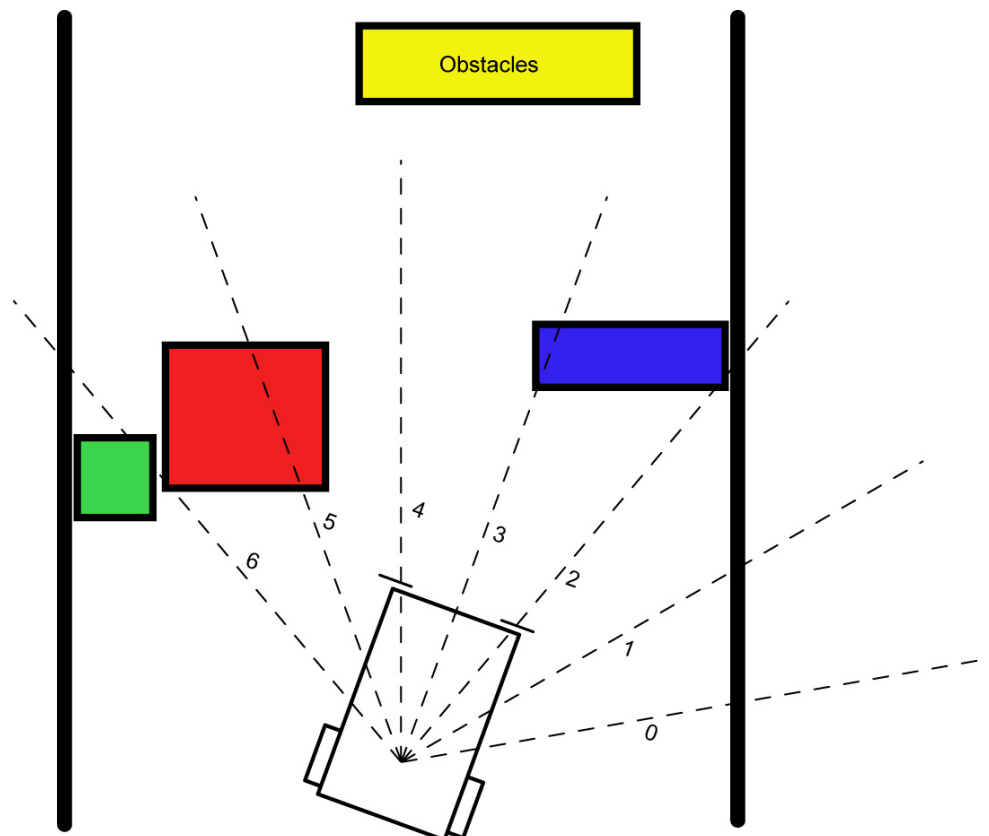

Figure 1
- **Obstacle Avoidance:** This series of four sonar car lessons walk you through the software development for the sonar car. In general, the car is designed to make its way through an obstacle without hitting an obstacle or wall. The sonar car takes 7 ultra-sonic distance readings, chooses the longest distance reading of the seven, and then rotates the car in the direction of the longest distance reading before traveling forward. For example in Figure 1, the sonar car should determine that direction 4 is the longest distance reading at its current position and it should rotate in that direction and then move forward.